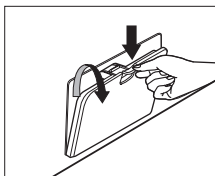

Fig.13
- Open the service flap by using a finger. (bottom right corner) (Fig.13)